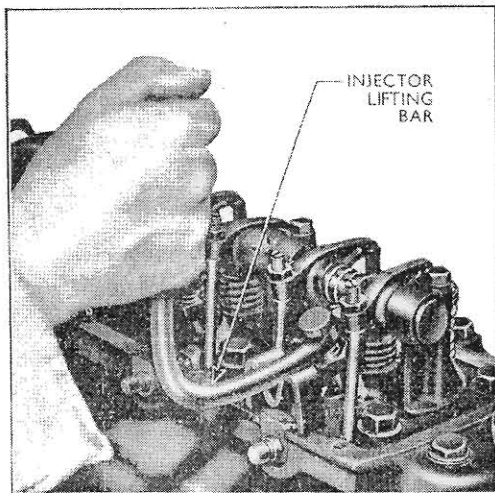

Fig. 26.
4. Remove the injector after unscrewing the two securing bolts. If the injector is tight in its housing, the injector lifting bar (Part No. E1ADDN-17098) should be used (see Fig. 26).